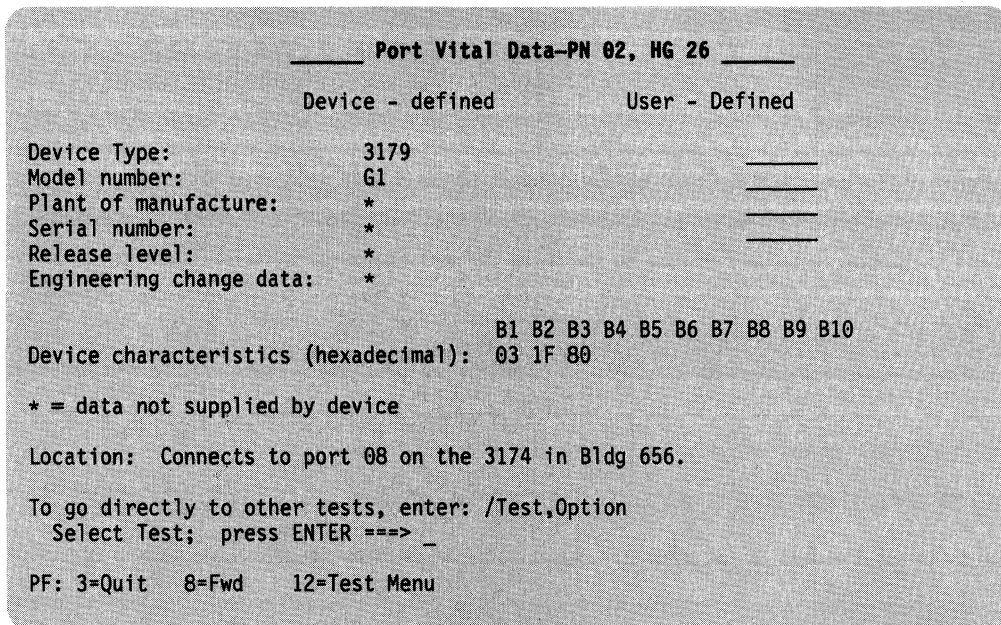

Figure 4-25. Example of a Port Vital Data Panel
**Test 5, Option 3,n,m:** Displays port vital data for the specified port (n) and HG (m) (n=0–31, m=21–23, 26–27). Figure 4-25 shows an example of the Port Vital Data for port number 02 on hardware group 26.